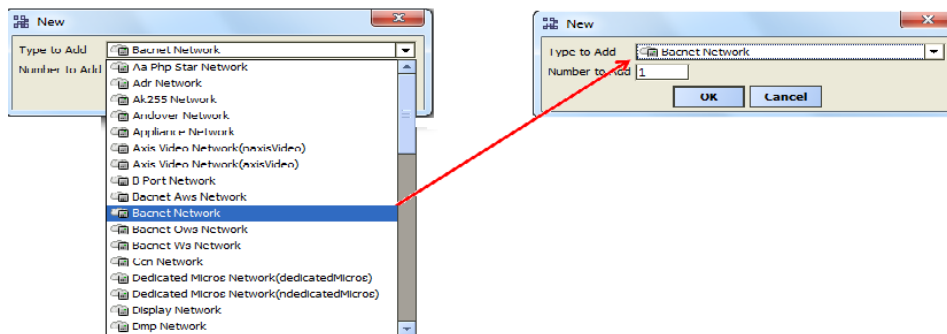

Fig. 19. Selecting BACnet Network to add
- A window will pop out as shown in Figure 19, asking 'Type to Add'.